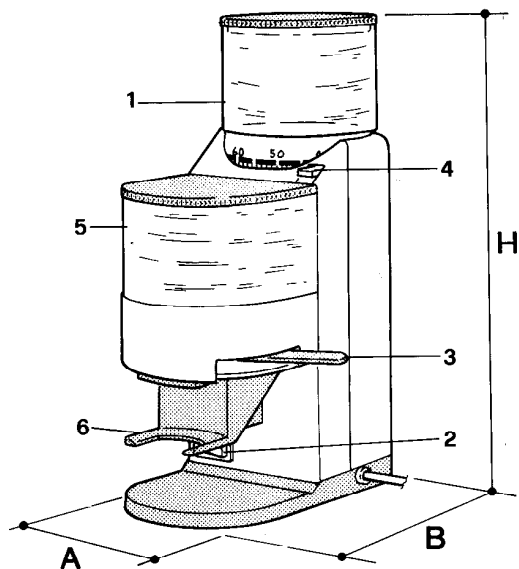

Fig.3
In the bean container 1 Fig. 3 a protection is fixed with screws to protect your hands when filling and cleaning the bean container.
Legend Fig. 3:
- Turn off switch 2 Fig. 3 and unplug the machine.